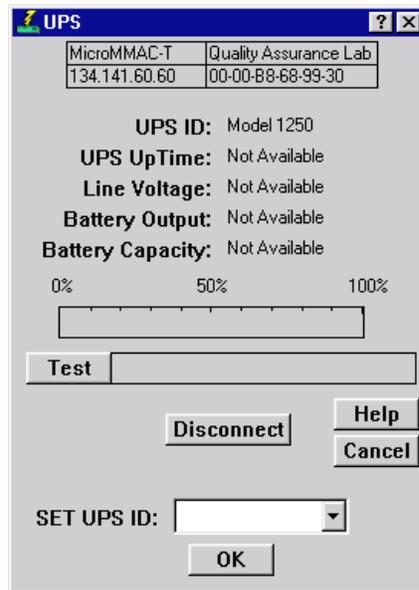

Figure 2-14. The UPS Window
2. Drag down to **UPS...**, and release. The UPS window, Figure 2-14, will appear.